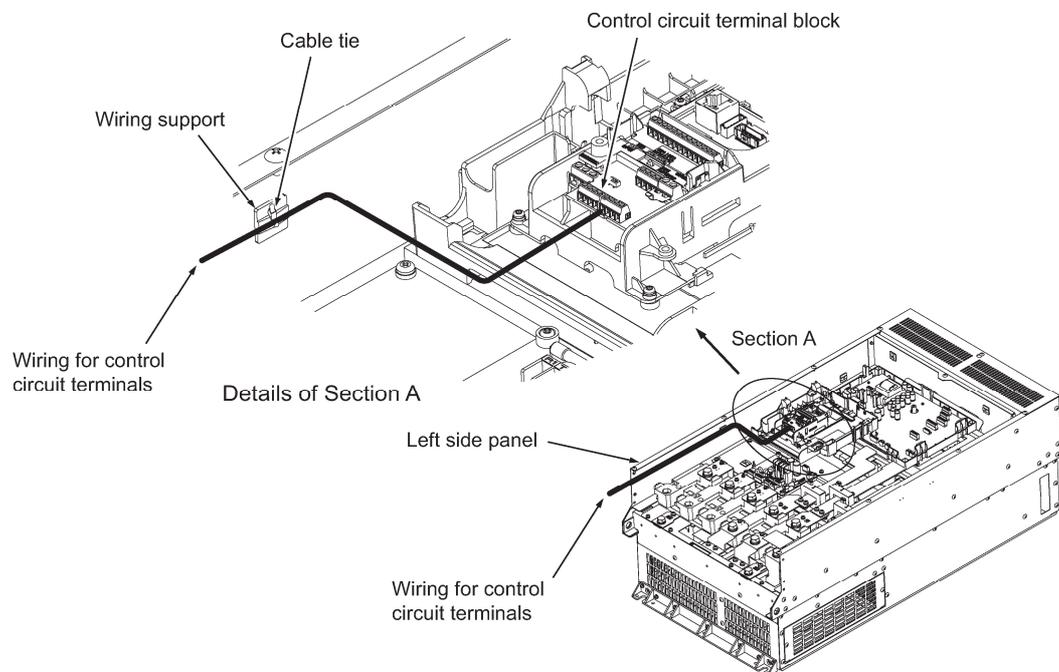

Figure 2.2-22 Wiring Route and Fixing Position for the Control Circuit Wires
- (1) As shown in Figure 2.2-22, route the control circuit wires along the left side panel to the outside of the inverter.
- (2) Secure those wires to the wiring support, using a cable tie (e.g., Insulok) with 3.8 mm (0.15inch) or less in width and 1.5 mm (0.06inch) or less in thickness.